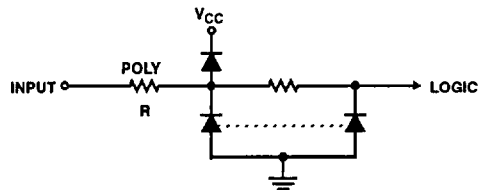
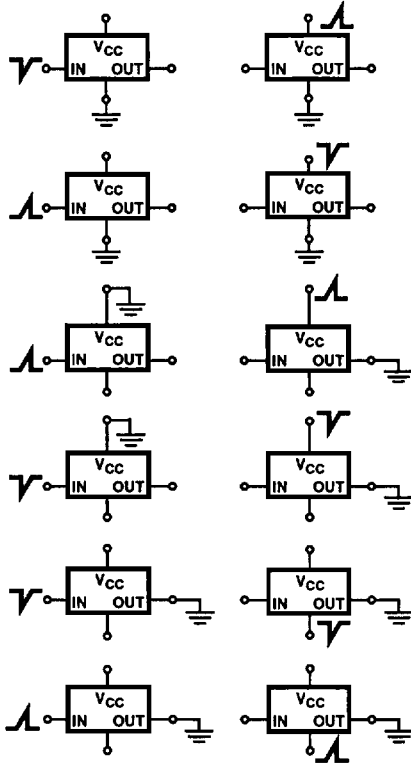
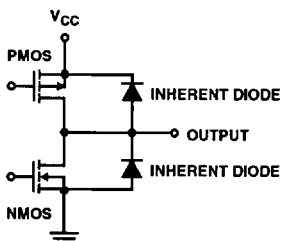

FIGURE 9. RESISTOR DIODE PROTECTION NETWORK USED ON INPUTS OF HC/HCT DEVICES TO PROTECT DEVICE GATE OXIDE FROM ELECTROSTATIC DISCHARGE DAMAGE (ESD)
FIGURE 10. HC/HCT ESD TEST MODES
FIGURE 21. INHERENT DIODES PROTECTING HC/HCT OUTPUTS
The very low HC/HCT input current and hence, high input resistance is primarily due to low-level leakage currents of the input ESD protection diodes shown in Figure 9. This excellent input buffering characteristic of CMOS logic ICs is fundamental to the wide range of very low power applications from pure logic to wide range RC oscillators, high Q crystal oscillators, etc. However, in no situation should this high input resistance be left floating or unterminated. Inputs may be tied directly to  $V_{CC}$  or GND via resistors of up to  $1M\Omega$ ; the upper limit is only related to AC noise immunity, i.e., pick up.
One additional note on HC/HCT input terminations. There are several bidirectional (transceiver) logic types in the QMOS family with common I/O pins. These I/O pins do not have the input poly resistor (R) of Figure 9. Hence, these pins cannot be terminated directly to  $V_{CC}$  or GND. A terminating resistor to  $V_{CC}$  or GND of  $10k\Omega$  is recommended.
HC/HCT device inputs have a resistor-diode protection network, shown in Figure 9, that protects the gate oxide from electrostatic discharge (ESD) damage. The network provides protection to levels typically greater than 2kV in all modes pertaining to the input, as shown in Figure 10. The
As a general rule, CMOS logic devices employing input clamp diodes (Figure 9) to minimize ESD effects should be operated between the power supply rails. If the input series polysilicon resistor shown in Figure 9 is not considered, then the rule is:  $-0.5\text{V} \leq V_{IN} \leq (V_{CC} + 0.5\text{V})$ .
The outputs in a QMOS device are protected from ESD damage by diodes. Figure 21 shows these diodes. These intrinsic diodes are effective because of the large geometries (widths) of the output transistors. These diodes are the drain to n-substrate junction of the p device and the drain to p-well junction of the n device. This network provides protection to voltage levels typically greater than 3kV in all ESD discharge modes pertaining to the output (see Figure 10).